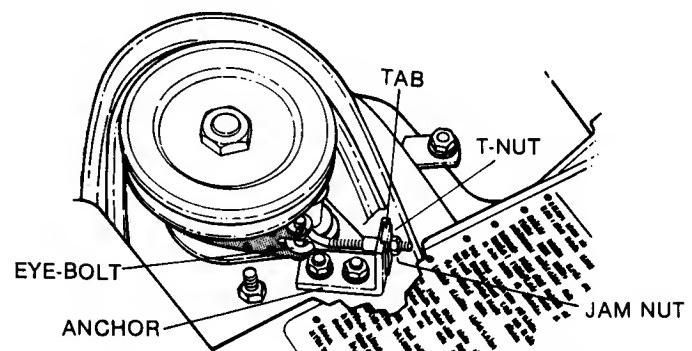

FIG. 11 - BLADE BRAKE ADJUSTMENT
As the brake band wears, the BLADE lever will gradually stop further rearward in the slot of the BELT COVER. BRAKE adjustment is required when the lever stops 1/2" from the top of the belt cover. The adjusting point is shown in FIG. 11. With the engine stopped, the adjustment is made as follows:
**STEP 2:** While holding the BLADE lever firmly in the rearward position, loosen the jam-nut on the end of the eye bolt (refer to FIG. 11).